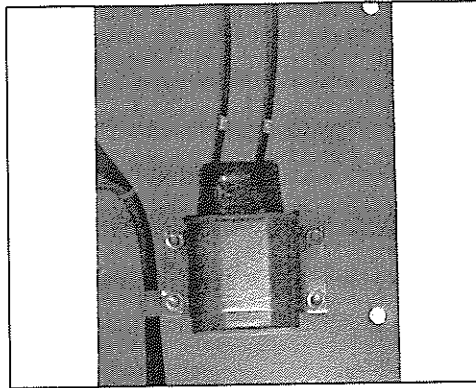

Figure 6-14
2. Remove the PMG output leads from the capacitor (figure 6-14) and loosen all cable ties so the leads can be removed with the PMG stator.